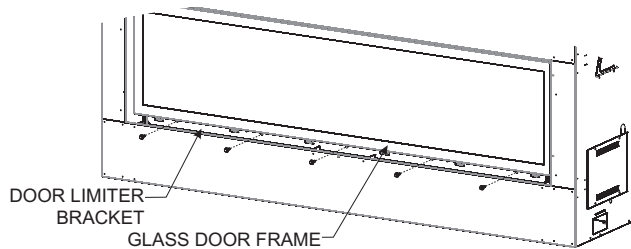

Figure 94
Before the Glass Door can be removed, a Door Limiter Bracket must be removed. Using a 5/16-inch hex nut driver, remove (5) #10-24 x 3/8-inch screws that retain the Limiter Bracket to the bottom flange of the Glass Door frame, and set the bracket aside. See Figures 94 and 95.